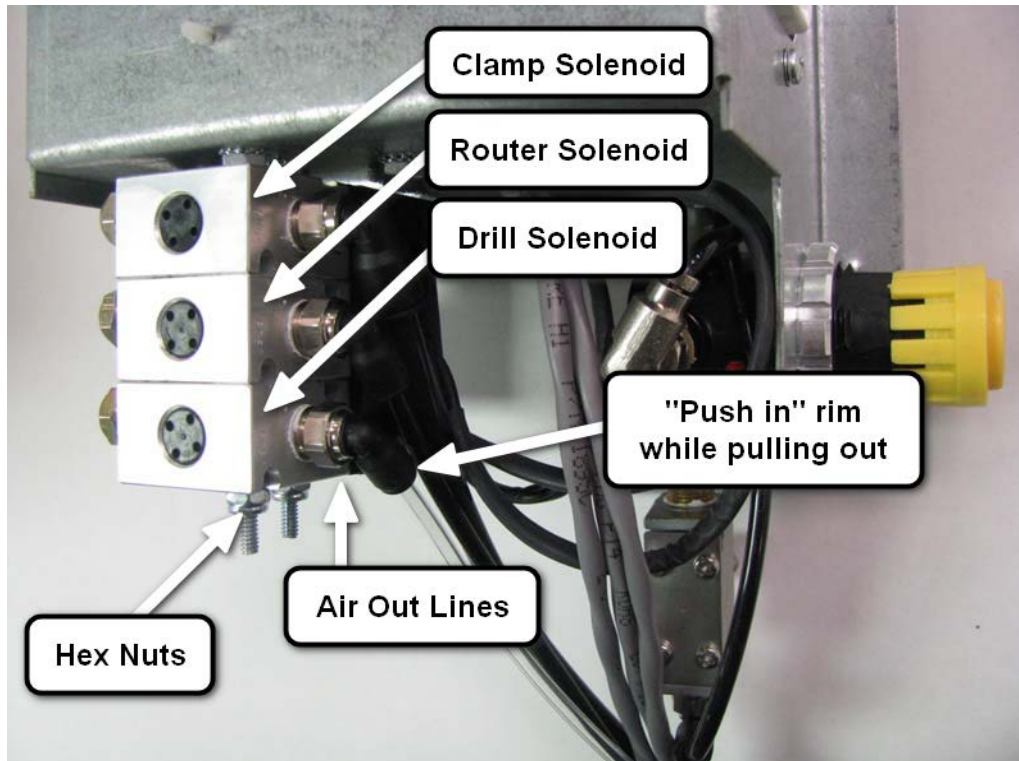
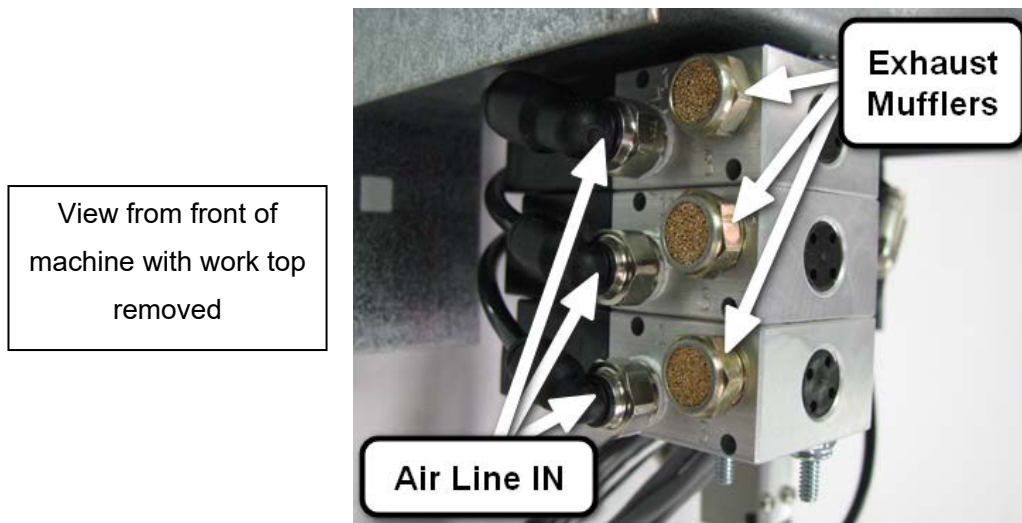

Fig 29
Fig 30
4. Label the three solenoids and remove the two hex nuts and lock washers that hold the solenoids together. **See Fig 29.**
8. Reconnect the "Air In" and "Air Out" lines and install exhaust mufflers, **See Fig 29 and Fig 30.**